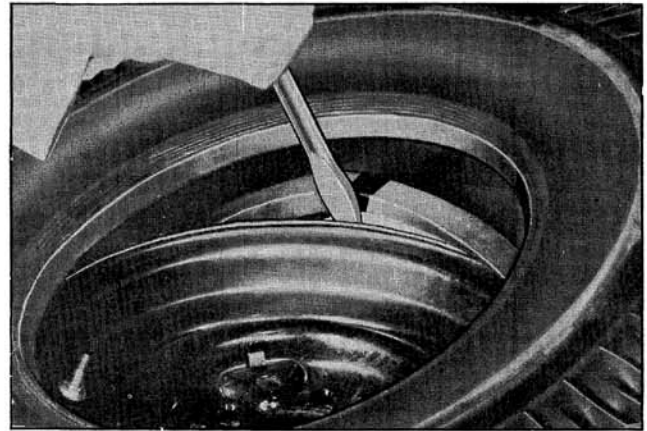

Fig. 9-42 Mounting Tire
3. Carefully mount inner bead in usual manner. If tire irons are used, take small "bites" around rim being careful not to injure the tire bead. (Fig. 9-42)